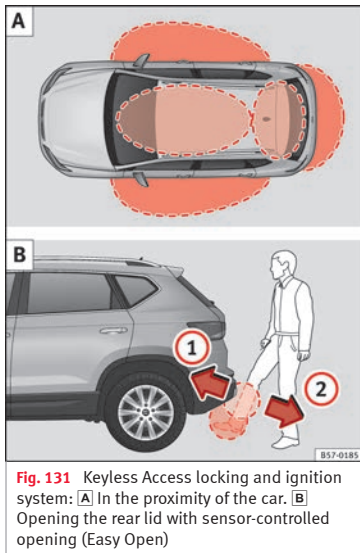

Fig. 131 Keyless Access locking and ignition system: **A** In the proximity of the car. **B** Opening the rear lid with sensor-controlled opening (Easy Open)
Keyless Access is a key-free locking and ignition system to unlock and lock the vehicle without actively using its key. To do this, all that is required is to have a valid vehicle key in the detection area where you are attempting to access the vehicle » **Fig. 131 A** and to touch one of the sensor surfaces on the door handles » **Fig. 132** or operate the *soft-touch*/handle on the rear lid » **page 137** » **!**.
If a valid key is in the proximity of the car, » **Fig. 131**  the Keyless Access locking and starting system gives the key entry as soon as one of the sensor surfaces on the door handles is touched or the *softtouch*/handle on the rear lid is operated. The following features are then available without having to use the vehicle key actively:
When the vehicle is locked, the rear lid automatically unlocks on opening if there is a valid vehicle key in the proximity » **Fig. 131** .
If there is a valid vehicle key in the proximity »» Fig. 131 A of the rear lid, it is possible to unlock and open or close it moving one foot in the area of the sensors »» Fig. 131 B located under the rear bumper.
- With a brisk movement, bring your foot and lower leg as close as you can to the bumper. The lower part of the leg needs to be close to the upper sensor area and your foot to the lower sensor area »» Fig. 131 B ①.
- Quickly remove your foot and lower leg from the sensor areas »» Fig. 131 B ②. The rear lid will be automatically opened.